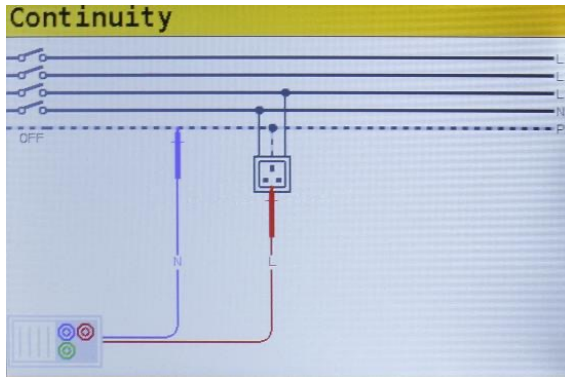

Figure 5.9: Connection of universal test cable
- Step 3** Connect test cable to the instrument and the circuit under test. Follow the connection diagram shown in figures 5.9 and 5.10 to perform the Continuity measurement.